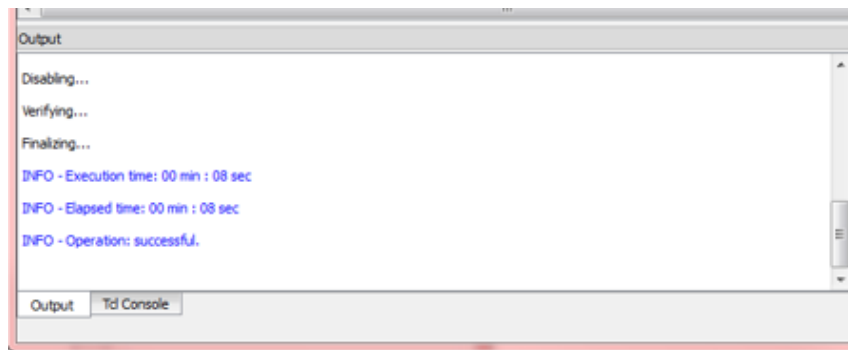

Figure 4.4. Output Console
5. In the Diamond Programmer main interface, click the **Program** button  to start the programming operation. Successful programming is displayed in the Diamond Programmer **Output** console as shown in Figure 4.4.